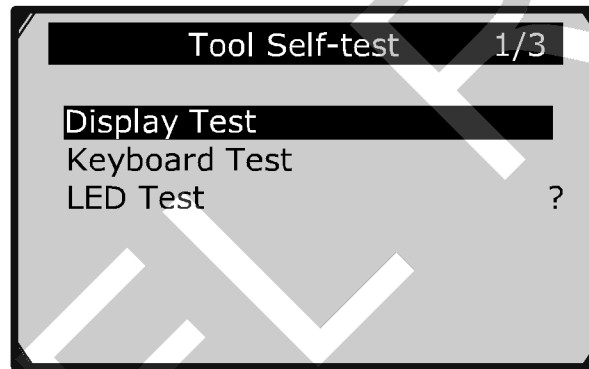

Figure 3.9
- 2) Select **Display Test** from **Tool Self-test** menu and press the **OK** button to start test. (Figure 3.9 )